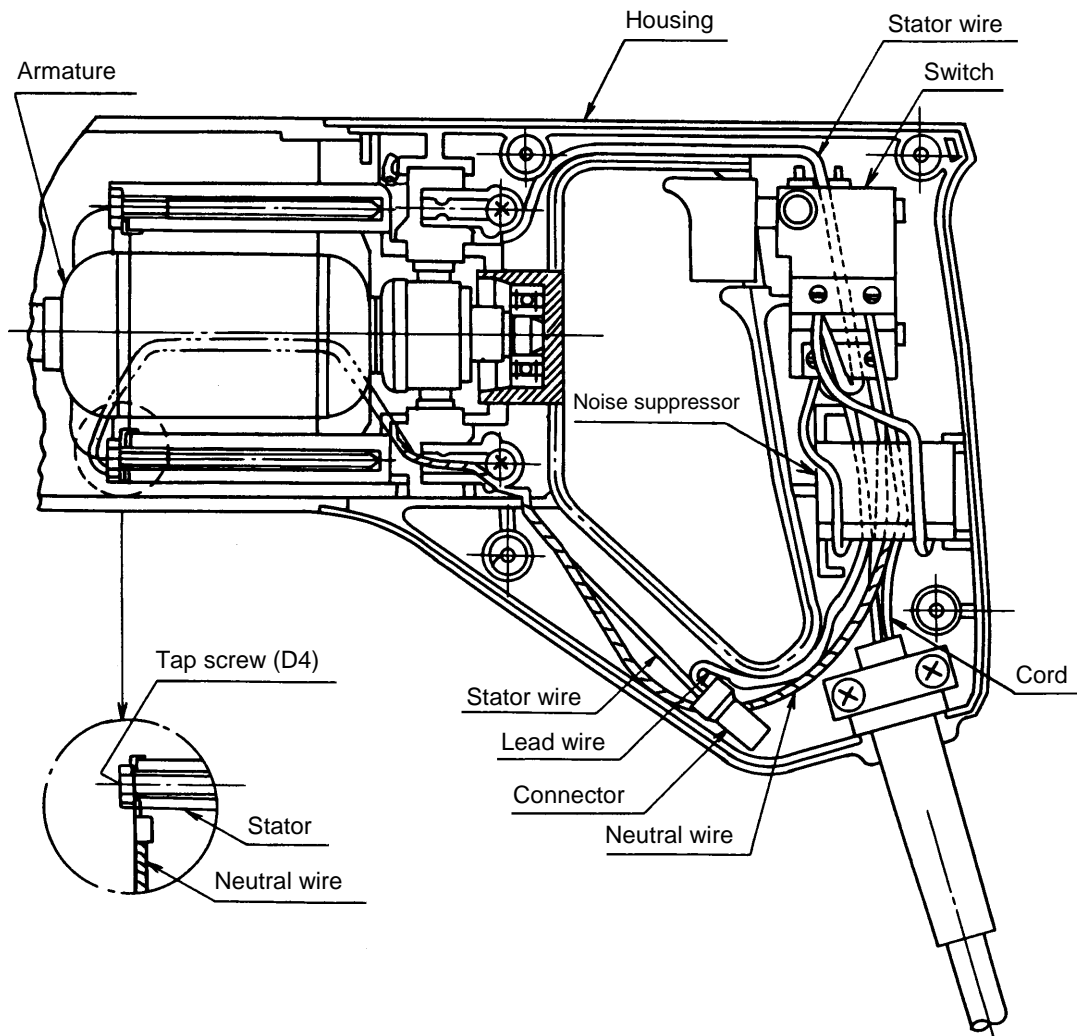

Fig. 9
- (2) Exercise internal wiring as shown in Fig. 9, and take sufficient care in that no lead wire be bitten-in while the fitting of handle cover is carried out.